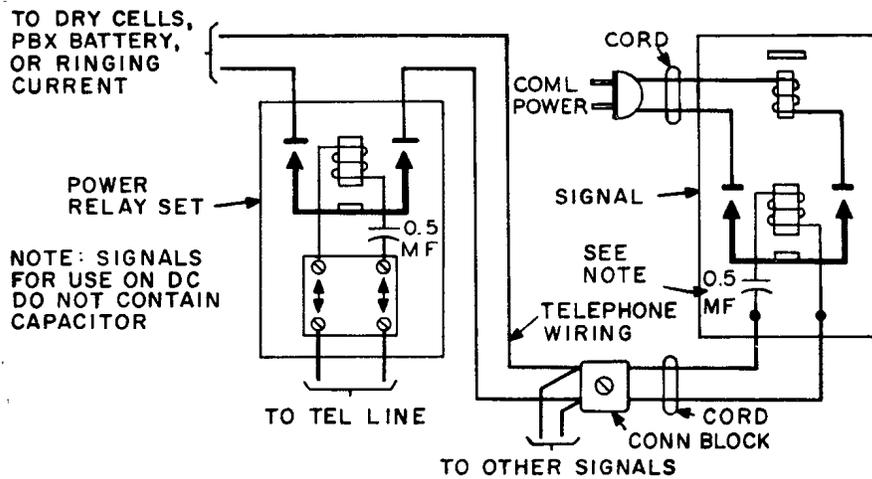

Fig. 3 - Multiple Signal Connections
2.03 Several signals may be connected as shown in Fig. 3. This has the advantage of only one ringing bridge on the telephone line for several auxiliary signals. Special commercial power wiring is not needed between the relay set and the signals.